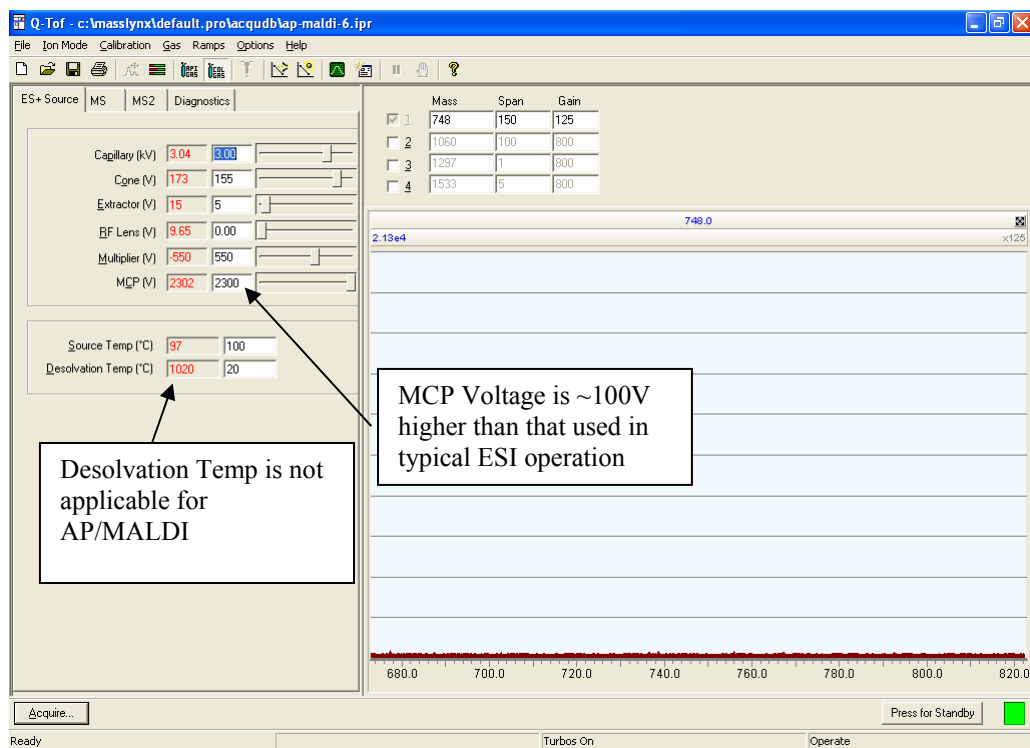

Fig. 40. MS Tune page in MassLynx with ES+Source tab showing
- The desolvation temperature in FIG. 40 is not meaningful in AP/MALDI operation, and thus correctly shows a value of >1000°C to indicate it is not functional. Notice that in FIG. 40, the capillary voltage is set to 3kV, and the MCP voltage is set to 2300V (higher MCP voltage is beneficial for AP/MALDI over ESI).